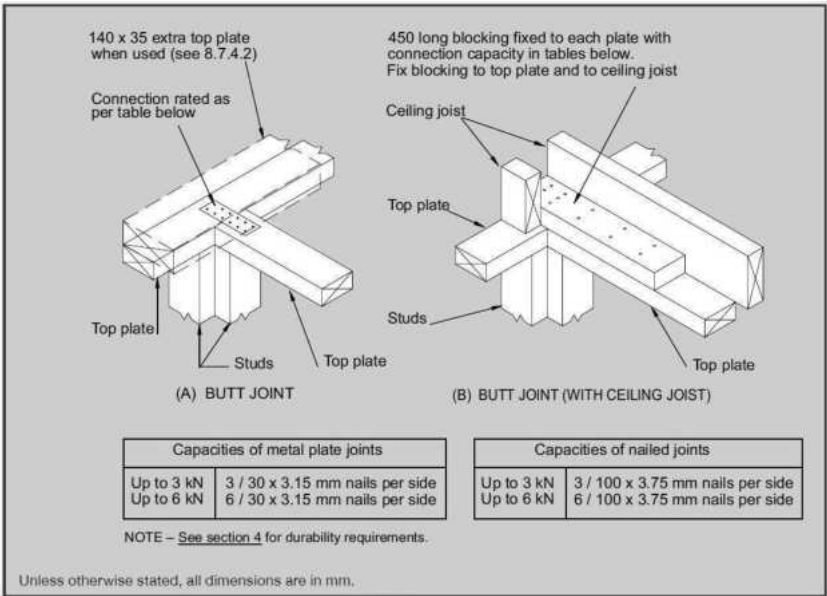

Figure 8.16 - Connecting top plates to external walls at right angles - Walls containing bracing (see 8.7.3.4)
- (a) For each wall containing wall bracing elements with a total bracing capacity of not more than 125 bracing units: to at least one such external wall by a fixing as shown in figure 8.16 of 6 kN capacity;
- (b) For each wall containing wall bracing elements with a total bracing capacity of not more than 250 bracing units: to at least 2 external walls by fixings as shown in figure 8.16 each of 6 kN capacity;
- (c) For each wall containing wall bracing elements with a total bracing capacity of more than 250 bracing units: to at least 2 external walls by fixings as shown in figure 8.16 each having a rating of not less than 2.4 kN per 100 bracing units.